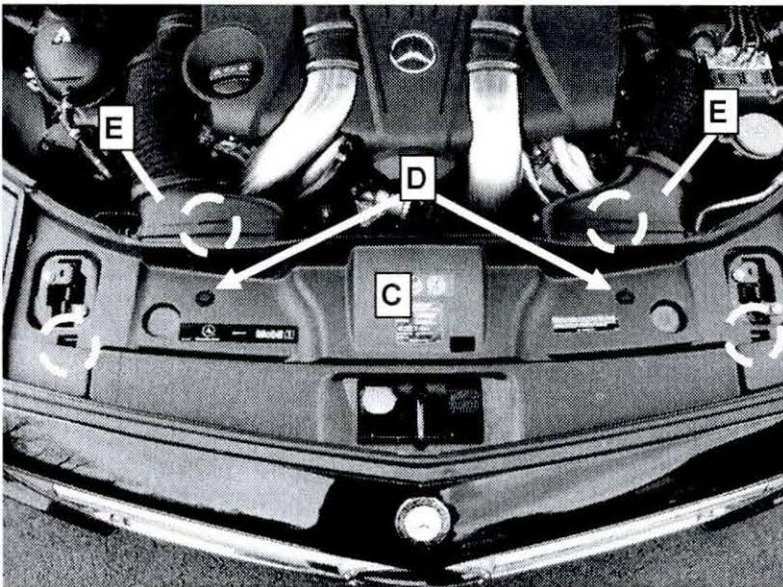

Figure 2
2. Remove top radiator crossmember cover (C, Figure 2):
- Unclip radiator crossmember cover (where circled, Figure 2).
- Disconnect air intake ducts (E) from radiator crossmember cover (C).
- Slide radiator crossmember cover (C) back then remove.